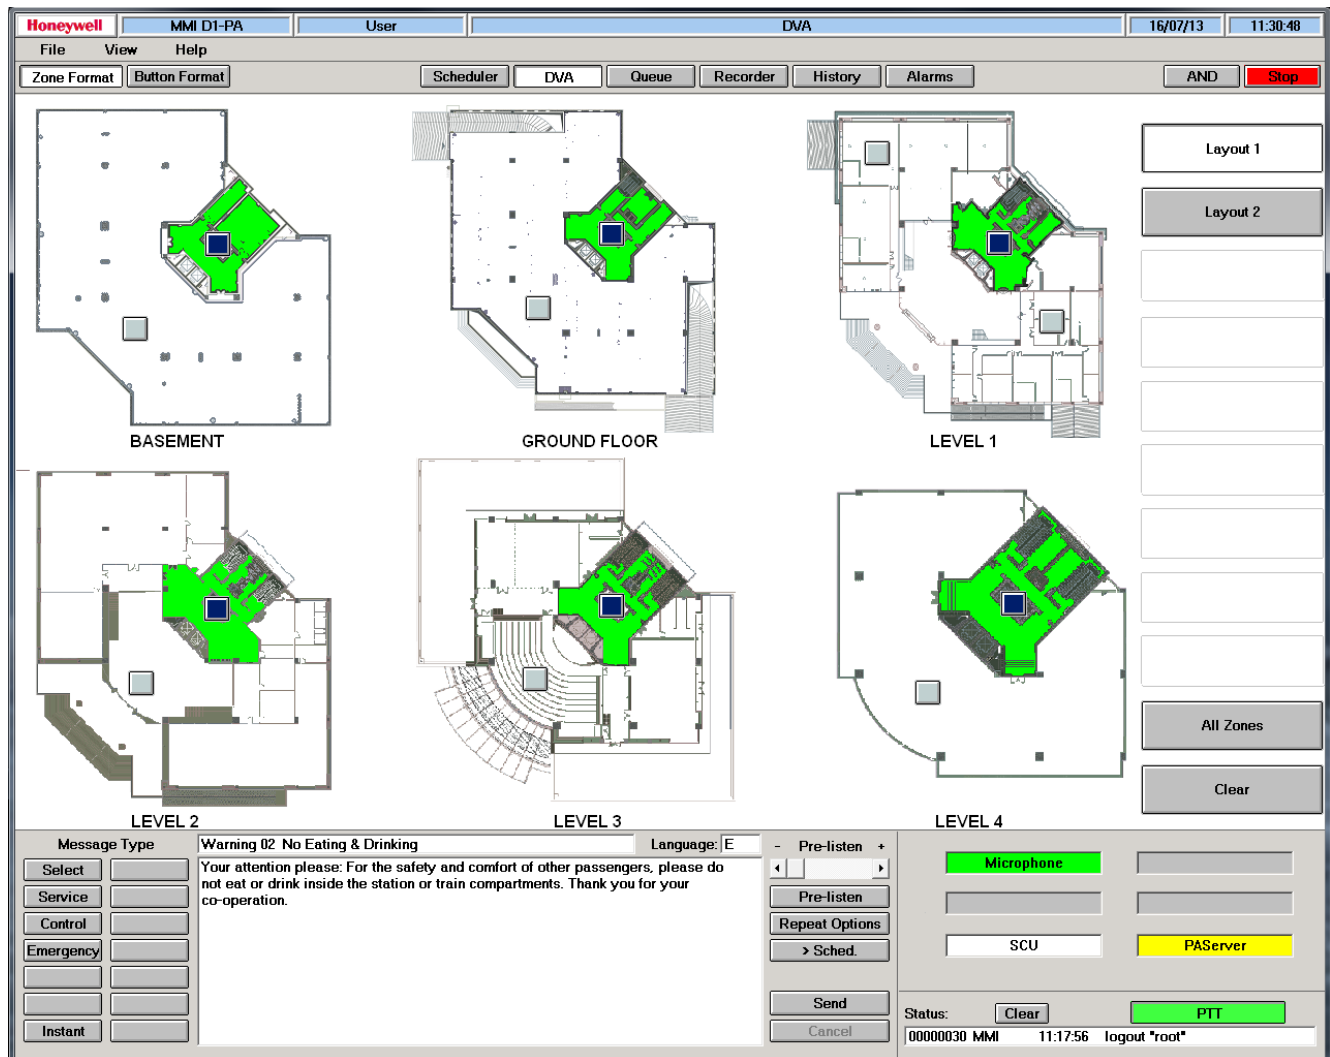

Fig. 30: PAMMI Plus view during a live announcement
Fig. 30 shows the view of PAMMI Plus during an ongoing live announcement to the zones selected in the zone view.
- After the microphone is connected, the connected zones are shown in green; the PTT button on the PAMMI Plus screen also becomes green (see Fig. 30).